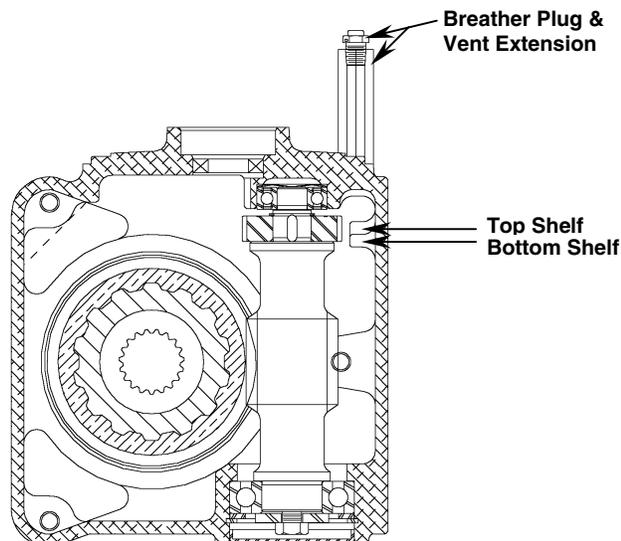

Figure 1, Front End Gearbox Cross Section
2. Verify that the gearbox oil level is between the top and bottom shelves (see Figure 1). If it is necessary to add oil, add only AMF Gear Lube P/N 715-021-716. Do NOT overfill.
8. Fill the gearbox with AMF Gear Lube (P/N 715-021-716) to a level between the gearbox's top and bottom shelves (refer to Figure 1).
10. On a level surface, fill the gearbox with approximately 3.15 pints (1.5L) of AMF Gear Lube (715-021-716) to a level between the top and bottom shelves (refer to Figure 1).